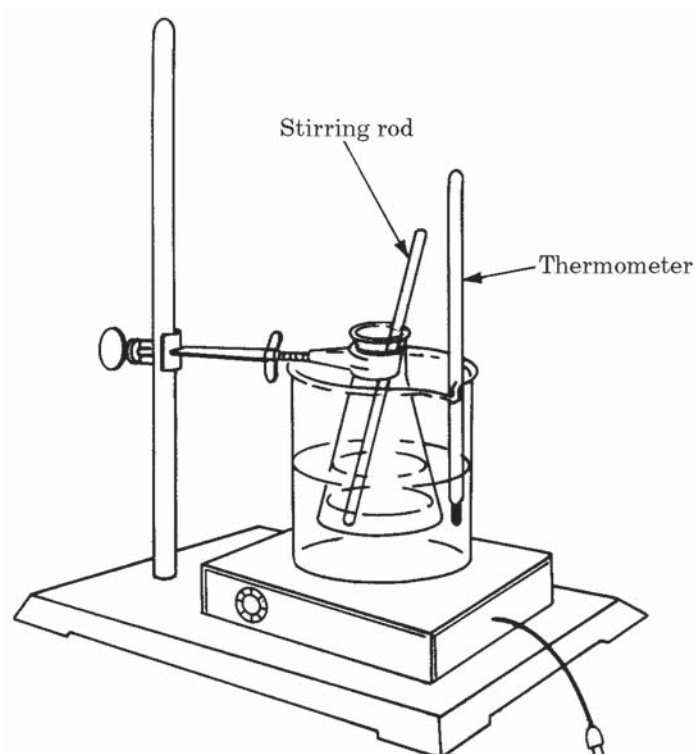

Figure 40.1
1. To a 250-mL Erlenmeyer flask, add 50.00 g of milk and heat the flask in a water bath (a 600-mL beaker containing about 200 mL of tap water; see Figure 40.1). Stir the solution constantly with a stirring rod. When